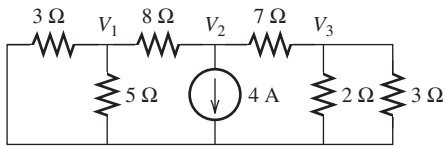

FIGURE P3.36 Circuit for Problem 3.36.
3.36 (A) Find V_1 , V_2 , and V_3 in Figure P3.36: